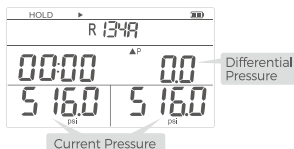

FIG.6 Stop the Pressure Leak Test Interface
4.End the leakage test:Press the button to display the (Figure 6).